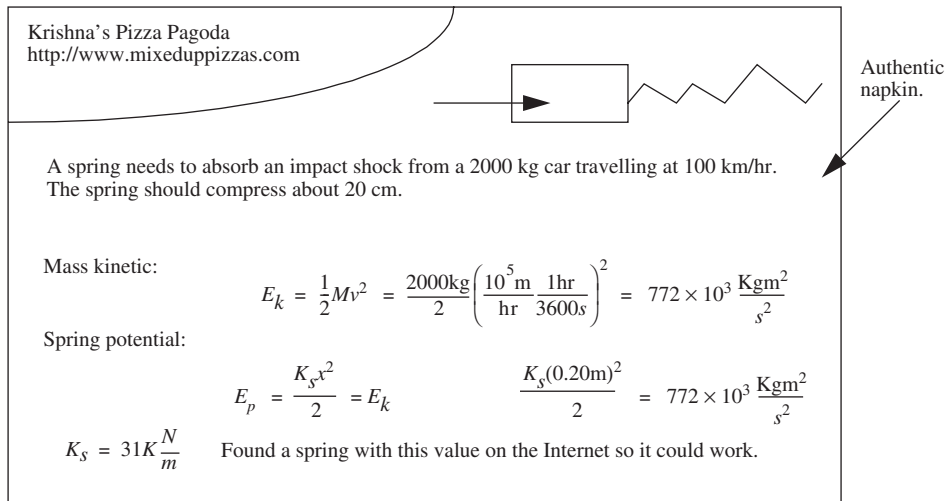
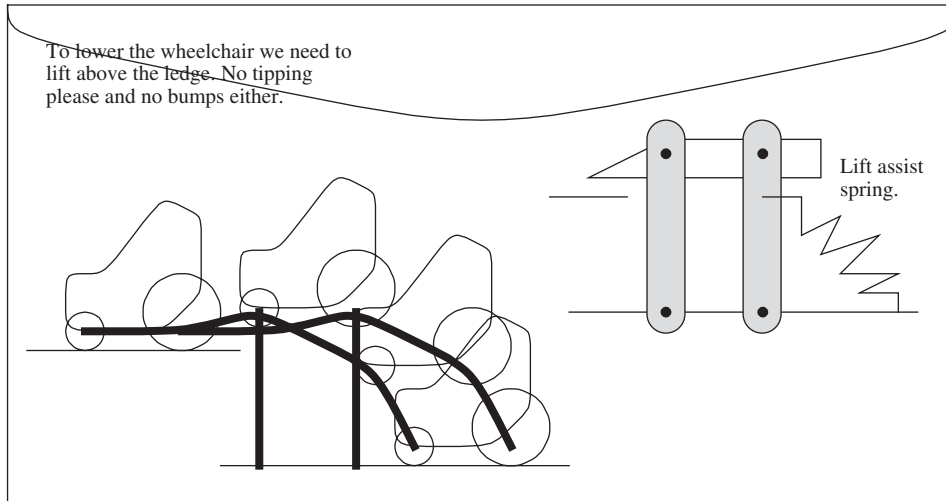
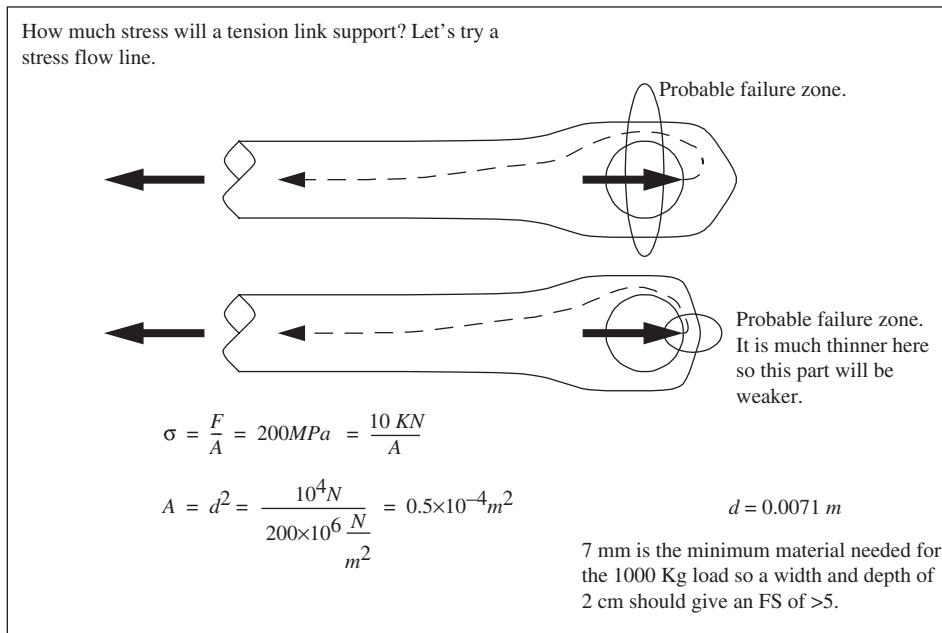

FIGURE 12.2
FIGURE 12.3
FIGURE 12.4
The key to these approaches is to oversimplify the problem. Some BOE strategies to help the process are given in the following list. An example of a quick calculation of a spring value is shown in Figure 12.2.
Some examples of BOE calculations are shown in Figures 12.2 through 12.4. The calculation in Figure 12.2 simplifies a complex problem by simply approximating the kinetic and potential in a mass spring impact. The spring coefficient calculated will not be the final value, but it shows that the design could work and provides a rough value. If this did not work, the napkin and the idea go into the garbage. The wheelchair lifter in Figure 12.3 began with some sketches of wheelchair positions. Adding some more detail makes a possible solution obvious. It often takes a few envelopes before the right mechanisms are found. The initial design for a tension member (Figure 12.4) starts with a sketch of a couple of geometries. Looking at the force flow lines highlights where failure might happen, and the tensions in these areas are used to guess the necessary thickness. Of course, in the lower case the shear modulus should have been used, but this is a BOE calculation so we know it will need to be around 1 cm. If the thickness was 2 cm then the design would probably have a factor of safety (FS) of more than 2. For each of these three examples detailed engineering calculations must come later.